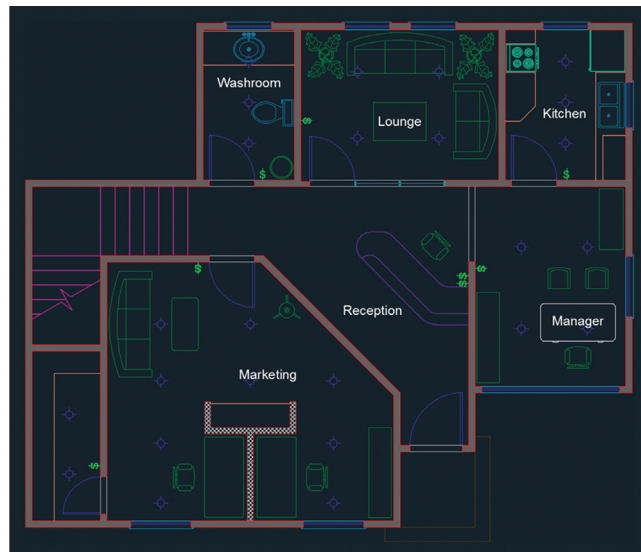

FIGURE 6.12 The floor plan with all layers
1. Expand the Layers panel and click the Turn All Layers On tool. You now see the switches (\$ symbols), downlights, and header layers. Figure 6.12 shows the result.